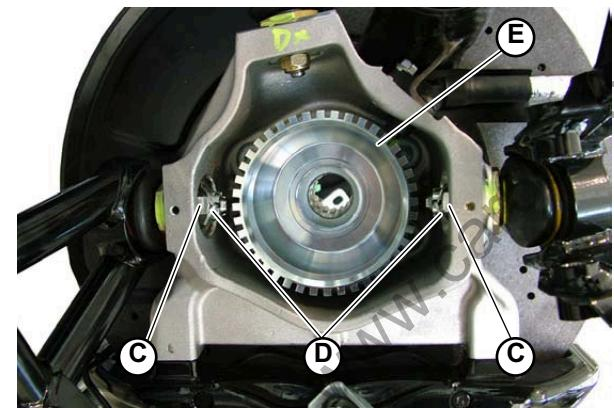

Fig.2
2. Tighten the 2 nuts (C-Fig.2) and insert the 2 split pins (D-Fig.2)..
3. Position the phonic wheel (E-Fig.2) inside the hub carrier.